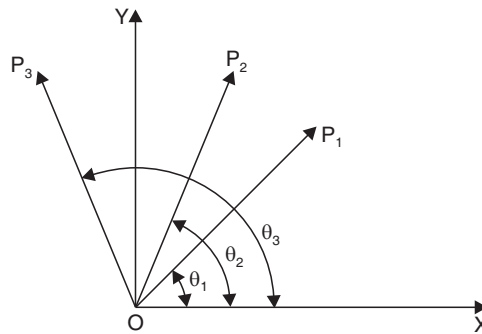

Fig. 2.18
**Resultant by analytical method.** Refer Fig. 2.18.